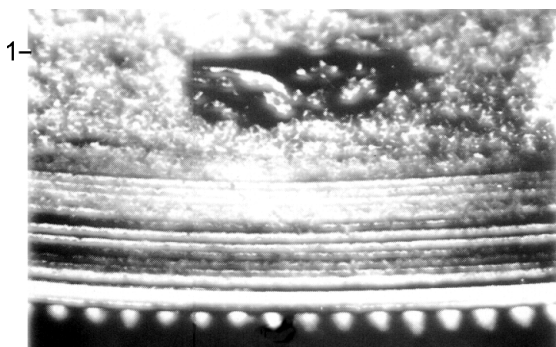

Figure 3 — Inclusion: flash
See Figure 2 and Figures 3 to 14 for the following types of imperfections; keyed elements are identified in Figure 2:
- inclusion (see Figures 3, 4, and 5);